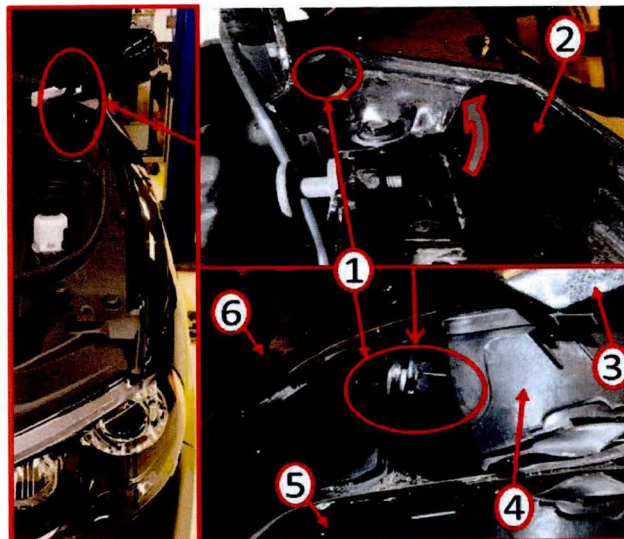

Fig. 3 Hood Hinge Pivot Bolt Removal
9. Remove and replace the driver side hood hinge pivot bolt (Fig. 3).
NOTE: The front fender does not need to be removed in order to replace the hood hinge pivot bolt which can be accessed through the hood hinge pivot bolt access area (2) shown in (Fig. 3).